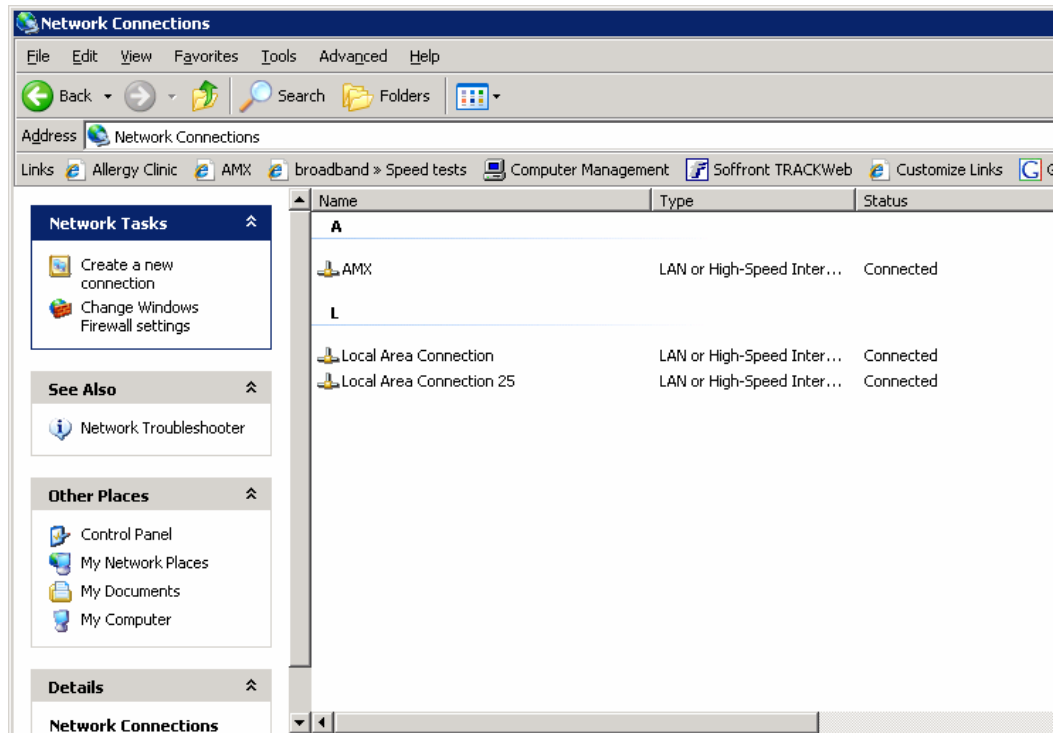

FIG. 95 Network Connections window
2. In the *Control Panel* window, click on the **Network Connections** icon to open the Network Connections window (FIG. 95)